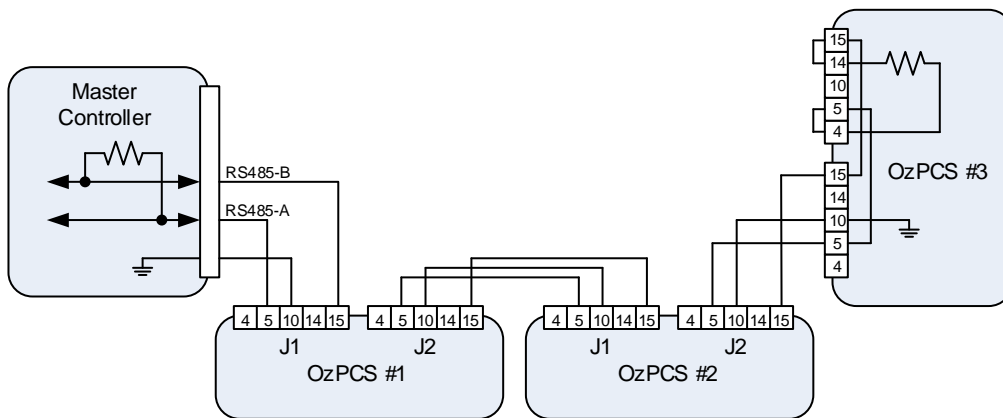

Figure 3 - Modbus Serial Interface Wiring
- Figure 3 - Modbus Serial Interface Wiring 4
The RS-485 data bus must be terminated for reliable communications. Do NOT terminate every device on the bus, as this will degrade the signals and overload the transceivers. Only the devices physically located at the end of the wires should have termination. The OZpcs-RS40 provides an internal termination resistor that may be enabled by shorting pins 4 & 5, and 14 & 15 on the last PCS in the daisy chain, as illustrated in Figure 3.